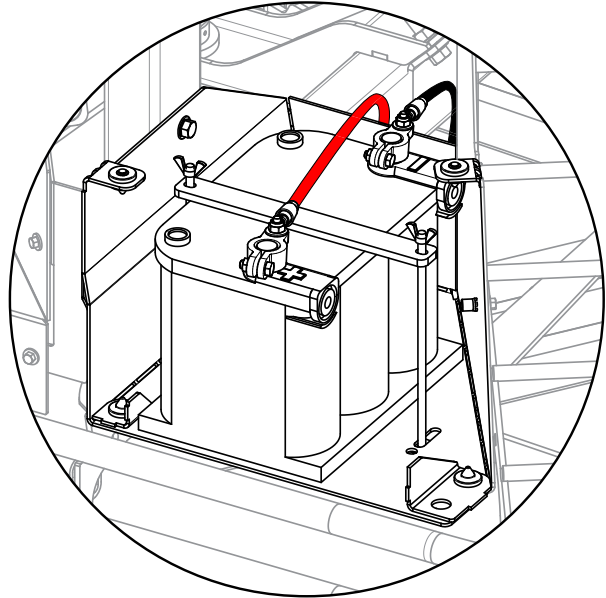

Figure 20. Battery Connection
4. Connect the positive (**RED**) battery cable to the positive (+) terminal on the battery, then connect the negative (**BLACK**) battery cable to the negative (-) terminal. See Figure 20.